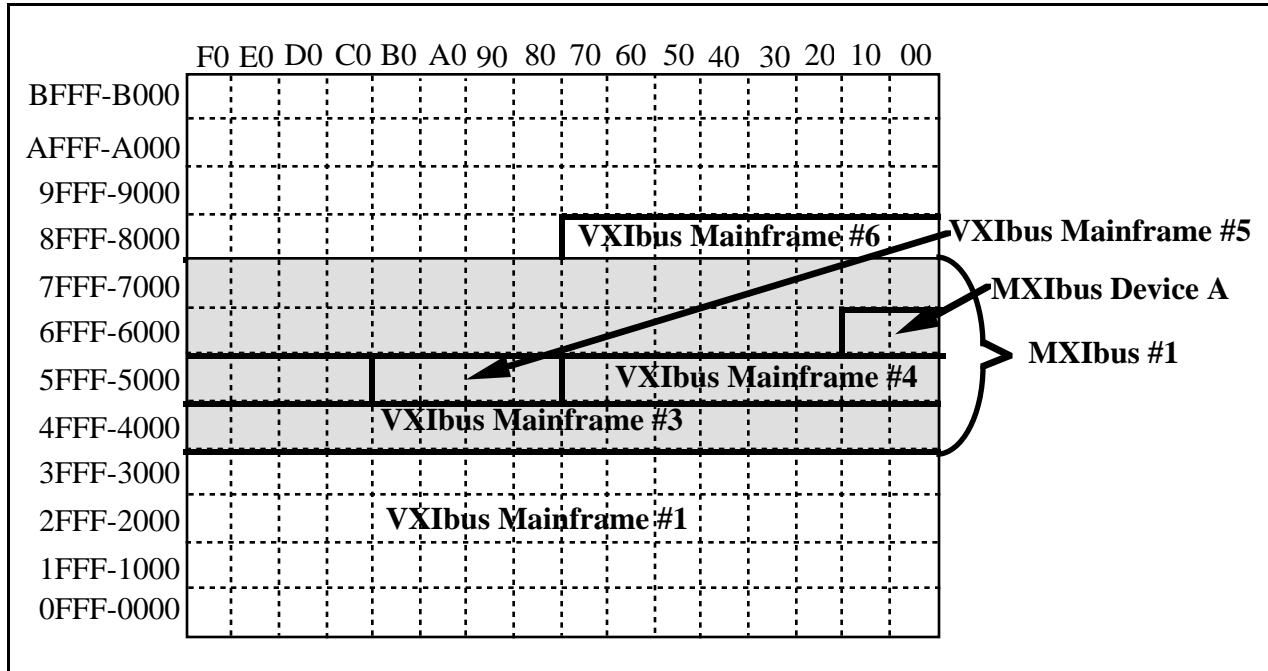

Figure 5-14. Example A16 Space Address Map
9. The next step is to determine the range of addresses, or base address, size, and direction of the A16 window for each VXI-MXI in the system. We first assign A16 space to the VXIbus RM Mainframe. From Figure 5-15, we see it needs 16 KB of A16 space, so we assign it the bottom 16 KB of A16 space, addresses 0 through 3FFF hex. See Figure 5-14 for a pictorial representation of this assignment.
10. Each first-level MXIbus link is connected to the RM through a VXI-MXI. The A16 window for MXIbus link #1 is 16 KB in size. We assign the next lowest available 16 KB portion of A16 space to MXIbus link #1, which is address range 4000 to 7FFF hex. (See Figure 5-14.) The base address of this window is 4000, which we enter into Figure 5-15. The Size field for the window is  $i$  where the size of the window =  $256 * 2^{8-i}$ .  $16 \text{ KB} = 256 * 2^{8-2}$ , so Size = 2. The direction of the window is in relation to the mainframe; therefore, Direction = *Out*.